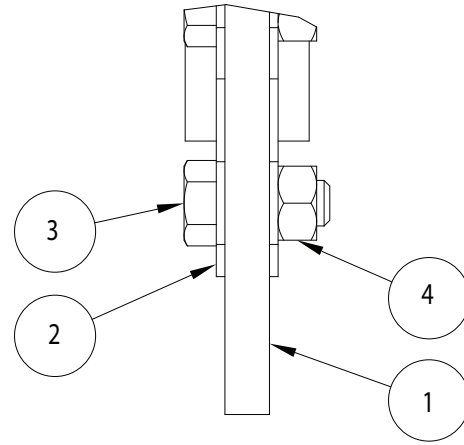

Figure 8 : Friction Shoe Assembly
- 4.1.1 Friction shoes can be replaced while the friction disc assemblies remain installed in the AMCB AccuStop™ assembly, provided that the machinery has been properly secured to avoid injury when performing repairs. Refer to **Figure 8** for item numbers (#) listed in this section. Refer to the part lists at the end of this manual for friction shoe replacement kit part numbers.